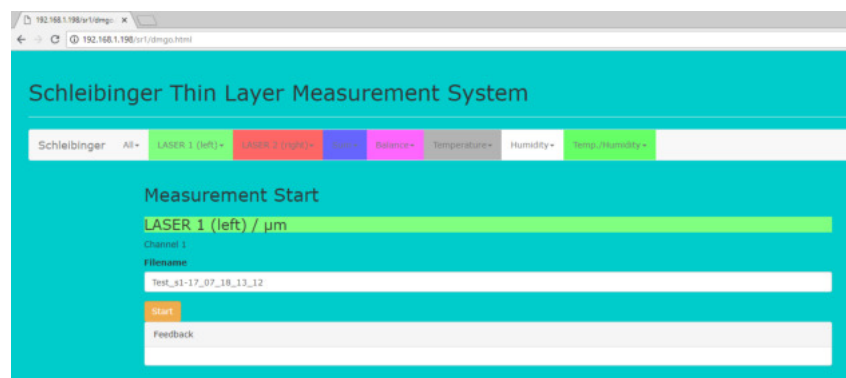

Figure 22: Measurement start
- Select **Start** for measurement start. Enter the filename (optional) and click on **Start** for setting the time to zero (Fig. 22).